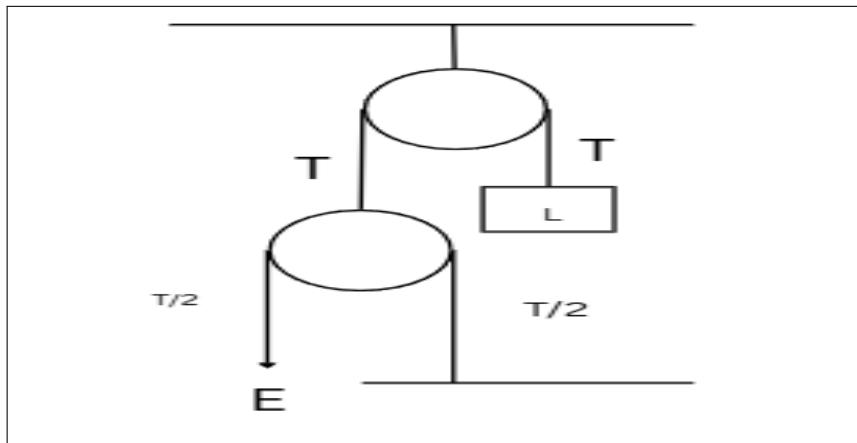

Figure 3.1: A Pulley System with mechanical Strength 2
**Example 3.3- Calculation of Mechanical Strength of the pulley system described in Fig 3.1**
**Scenario:** To Calculate the Mechanical Advantage of the Fig 3.1 Pulley System.